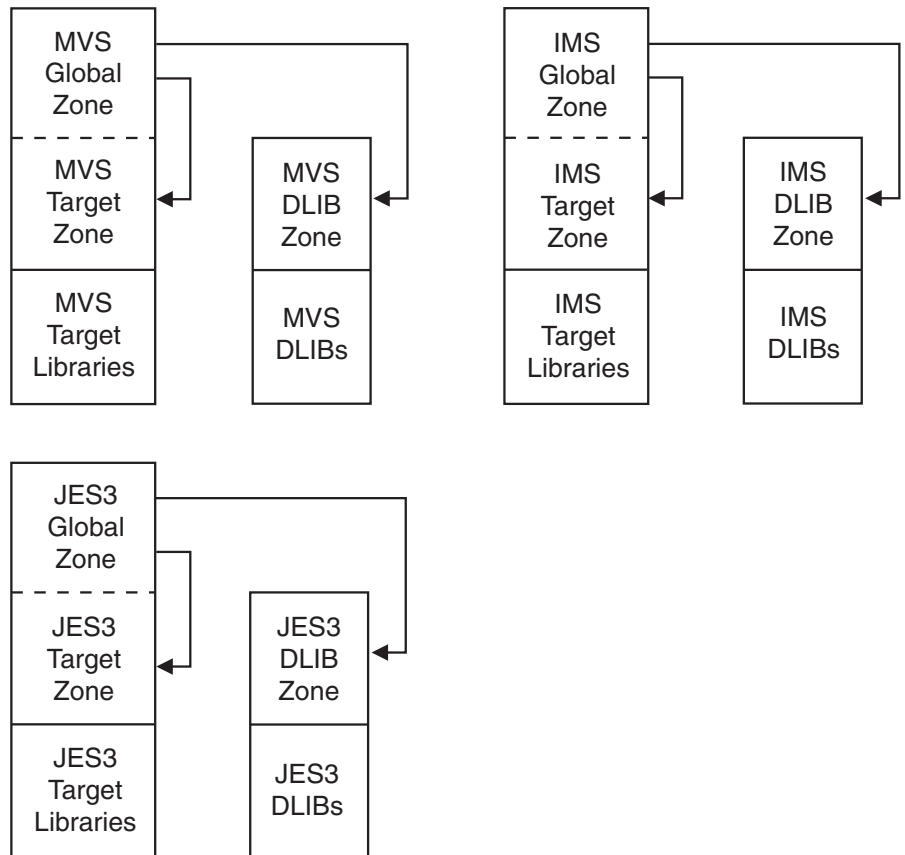

Figure 26. Using a Separate Global Zone for Each Subsystem
**Example 1: Using a Separate Global Zone for Each Subsystem:** In Figure 26, the existing DASD structure for the libraries is maintained, and a separate global zone is defined for each of the subsystems (MVS, JES3, and IMS). This CSI structure keeps control of the three subsystems separate. You might use this structure if the system programming support for the three subsystems is organizationally separate. A disadvantage is that there is no single control point (global zone) from which to manage or query the entire system.